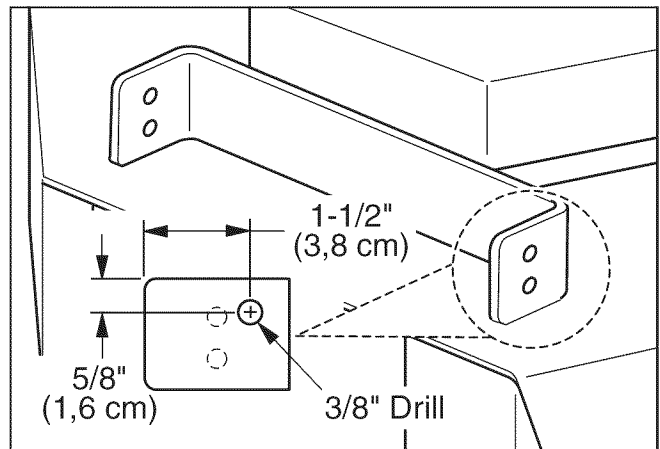

Figure 15. Discharge Chute Mount
4. Examine the discharge chute mount bracket on the mower deck (see Figure 15). If the hole pattern looks like the one shown, you must drill a 3/8" hole in the location specified in Figure 15.